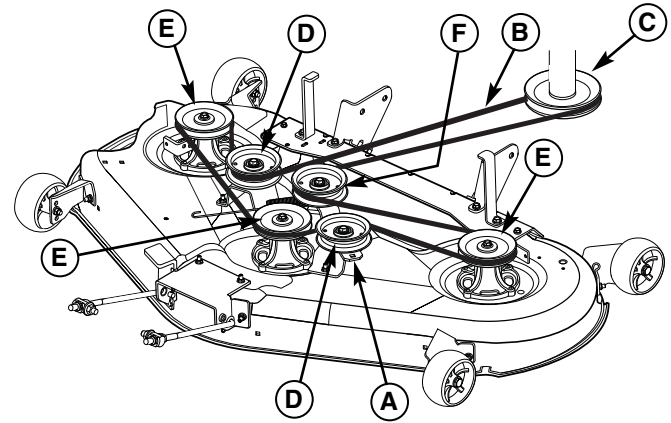

Figure 59. Mower Belt Routing - 52" Decks
3. Insert ratchet into 3/8" (9.5 mm) square hole in idler pulley arm (A, Figure 59) and pull to release belt tension.
4. Remove the mower drive belt (B) from the engine drive pulley (C).
6. Install the new mower belt as shown in Figure 59.
Contact your local authorized dealer for replacement of the arbor drive belt (A, Figure 59).